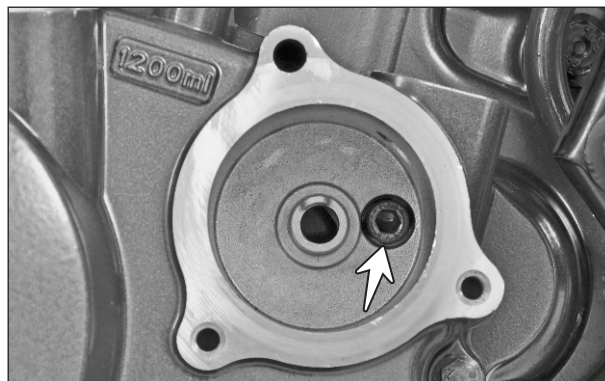

Fig. 3.6
- Remove the hexagonal socket head cap screw (M6x16 - 1 no.) from the cover clutch mounting. (Fig. 3.6)